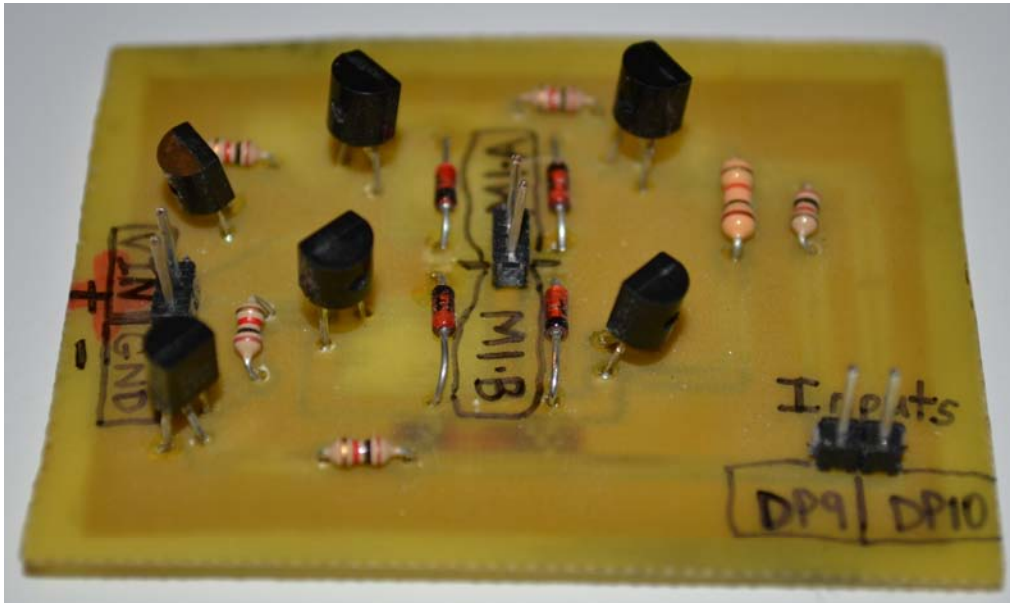

Figure 6-41. The finished BJT H-bridge PCB, ready for use
The two diodes on the left in Figure 6-41 (closest to the PNP transistors) should have their striped end (cathode) facing the center of the board, whereas the two diodes on the right should have their striped ends facing the outside of the board (see Figure 6-41).
3. *Install resistors:* The last components to install are the (6) 1k-ohm resistors that limit the amount of current allowed to each transistor base. Resistors are non-polarized and can be installed in any direction. When you are finished, verify that your board looks like the one in Figure 6-41 before testing your new PCBs.